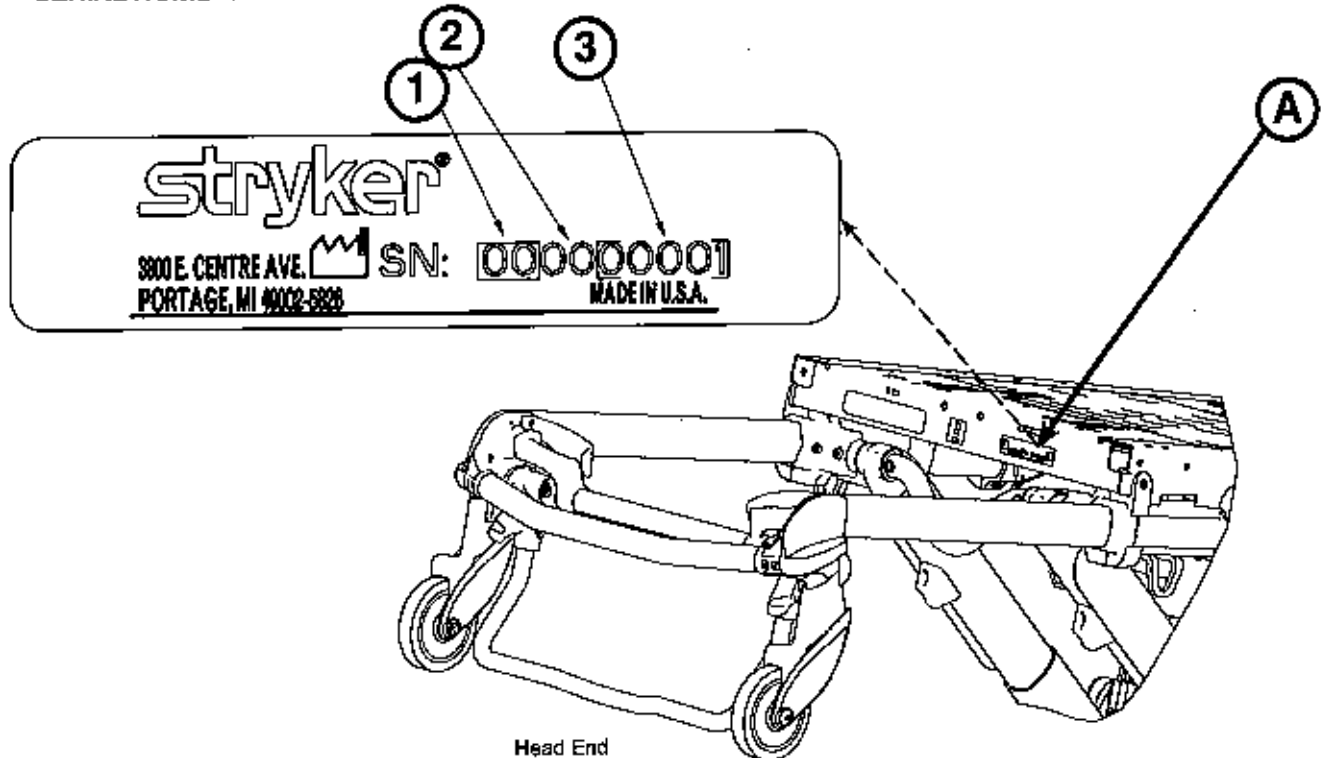

Figure 1: Cot Serial Number & Location
Please have the serial number (A) of your Stryker product available (as shown in Figure 1) when calling Stryker Customer Service or Technical Support. Include the serial number in all written communication.
See Figure 1 and the following key for additional serial number information: